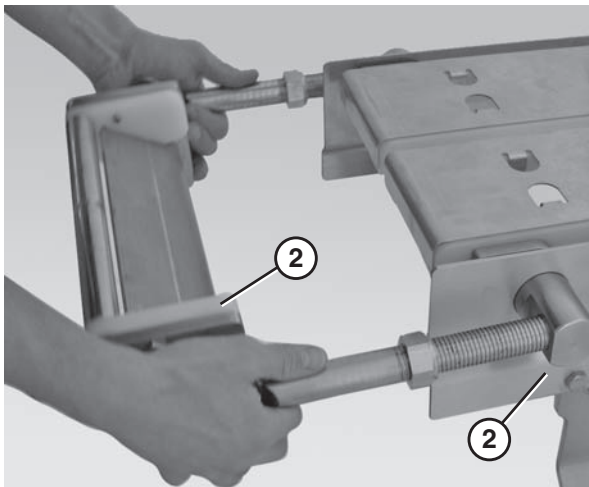

Figure 88
- Slide the nose bar tail assembly (Figure 88, item 1) out of the take up blocks (Figure 88, item 2).